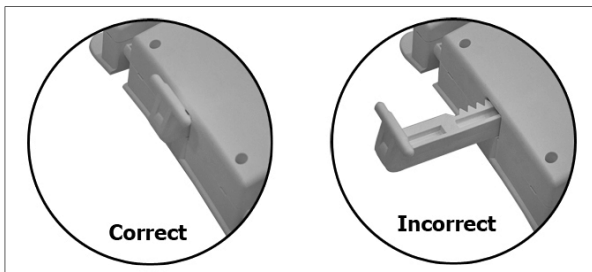

Figure 14
- The lifting rod must be fully retracted (Fig. 14). If not, use the handset to retract the lifting rod.